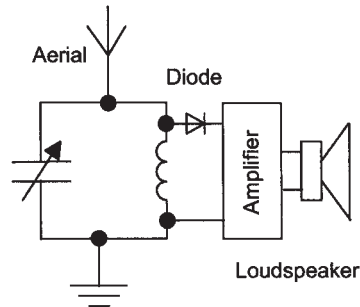

Figure 21.19 Activity 1
- 1 Assemble a simple radio receiver and explain how adjustment of the capacitance of the tuning capacitor enables different radio stations to be received. Figure 21.19 shows the basic circuit. The aerial can be a length of PVC-covered wire, the tuning capacitor a variable capacitor of about 0–500 pF and, for medium wave radio signals, the inductor a coil of about 50 turns of wire of diameter about 70 mm.